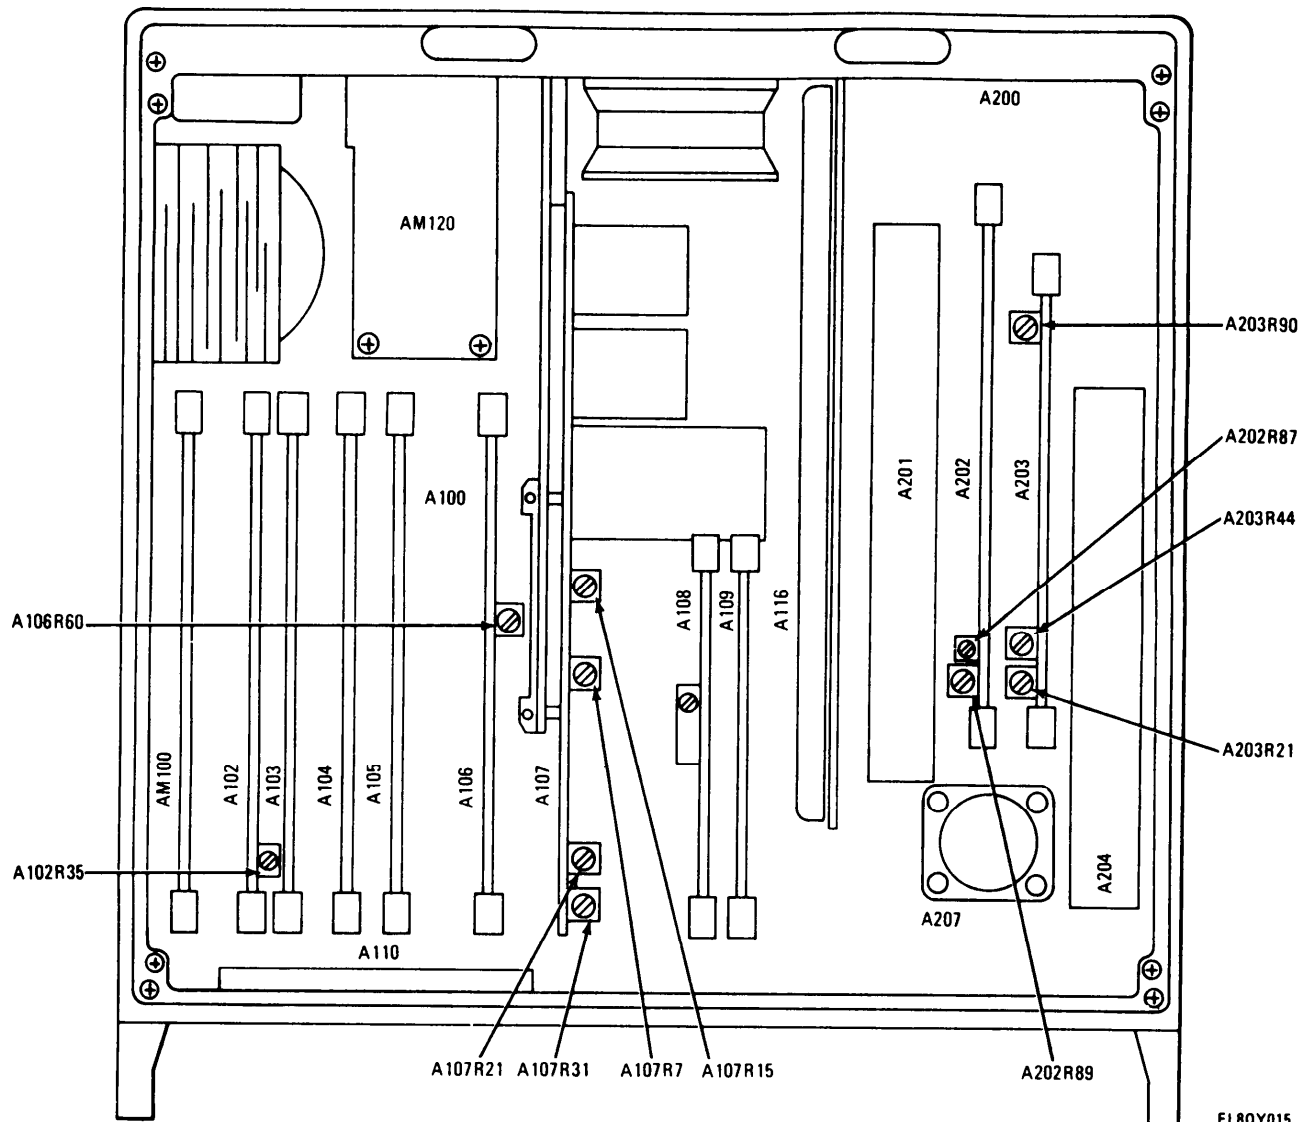
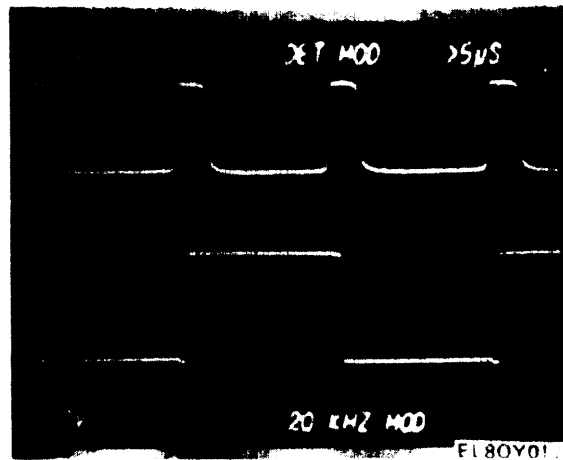

Figure 4-4. Adjustment Locations
Figure 4-7. Detected Modulation and 20 kHz Reference Pulse Timing
a. Display Brightness. Relative brightness of the LED displays may be adjusted for the work area conditions encountered. To adjust the brightness, remove the top cover of the counter and adjust resistor A102R35 on Count Chain Control A102 (fig. 4-4). Turning A102R35 clockwise increases the display brightness and counterclockwise decreases the brightness.
(1) Test, Measurement, and Diagnostic Equipment Required. TMDE (or equivalents) required for power supply adjustments are:
table 4-3 and adjust the corresponding control on Power Supply A107 (fig. 4-4) to obtain the correct dc voltage. The peak-to-peak ripple voltage displayed on the oscilloscope at each test point should not exceed the maximum specified in table 4-3.
(i) Adjust resistor A106R60 (fig. 4-4) to minimize differences between averaged pulse frequency and cw frequency recorded in step (f).
(h) Adjust resistor A202R89 for symmetrical waveform as shown in channel 1 (upper) trace of fig. 4-7. All pulses in the train should be of equal duration. The channel 1 (upper) trace is the detected modulation pulse and the 20 kHz reference is the channel 2 (lower) trace.
counter front-panel thumbwheel switch setting in 1 GHz steps from 01.0 through 18.0 GHz and, at each setting, adjust resistor A202R87 (fig. 4-4) for symmetrical waveform (fig. 4-7).